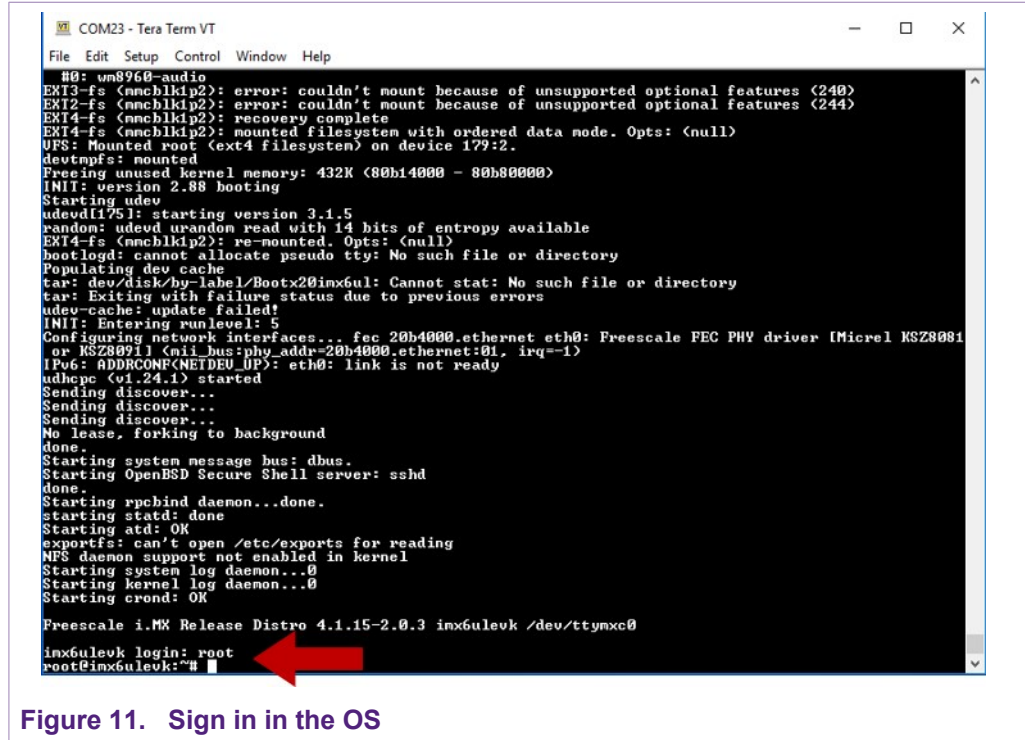

Figure 11. Sign in in the OS
6. During the boot process, the operating system status information will be prompted on the TeraTerm as shown in Figure 11. When the process is complete, the user can login with the following credentials